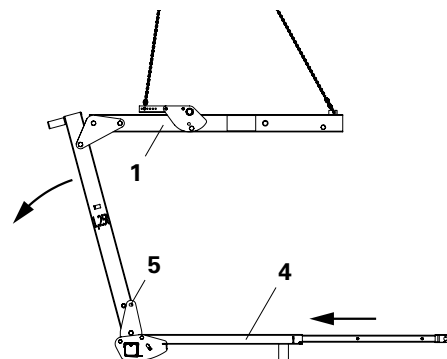
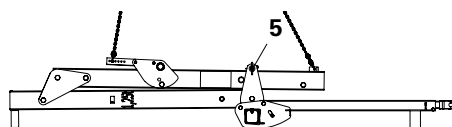

Fig. 1
Fig. 2
1. Insert fork arms (4) and slide together. (Fig. 1 + 5 – 8)
2. Remove connector (5).
3. Fold down gallow section (1) and secure with connector (5). (Fig. 2)